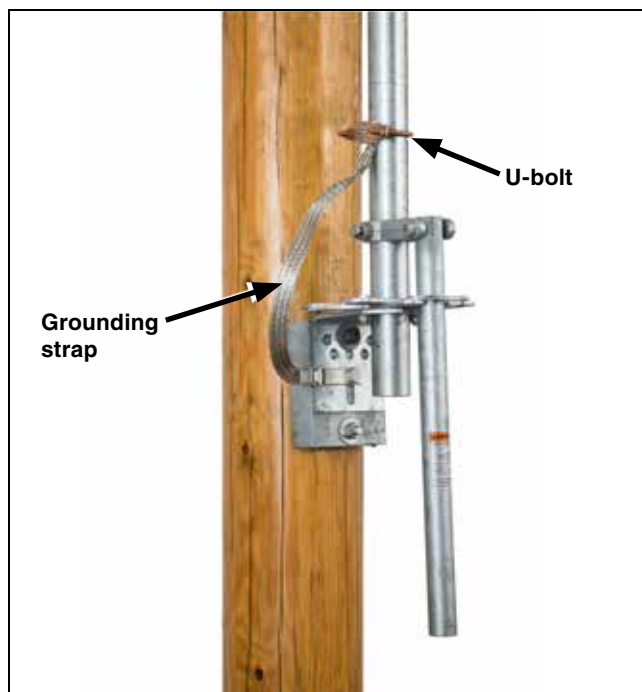

Figure 34. Attach the grounding strap.
STEP 32. Fasten the free end of the grounding strap to the lowest pipe section a few inches above the operating handle assembly (or key interlock) with the U-bolt connector provided for this purpose. See Figure 34. Afterward, connect the lower end of the strap to a suitable earth ground using the grounding connector provide at that end of the strap. The grounding recommendations in this document may differ from the standard operating and safety procedures of certain electric utility companies. Where a discrepancy exists, the operating procedures of the electric utility apply.